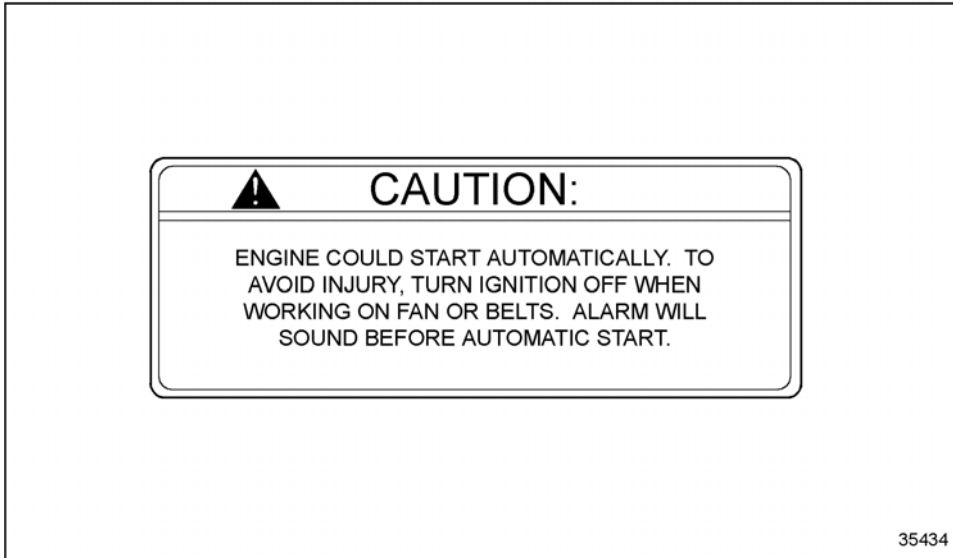

Figure 10 Radiator Fan Shroud Label (Qty. 2)
3. Remove the backing and place one label (see Figure 10, P/N: 23518552) on each side of the radiator fan shroud.